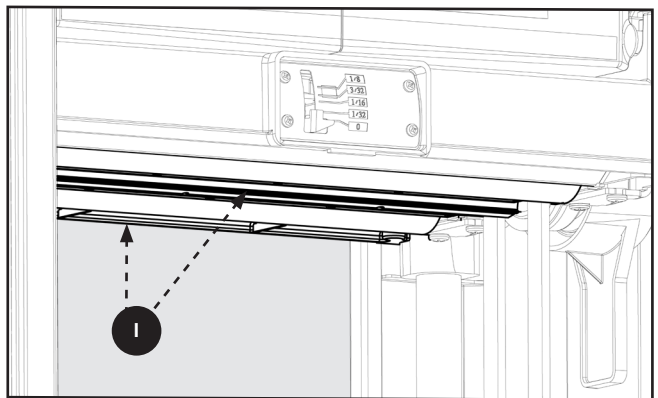

FIGURE 23
8. Take this time also to clean the rollers **I**, see Figure 23.